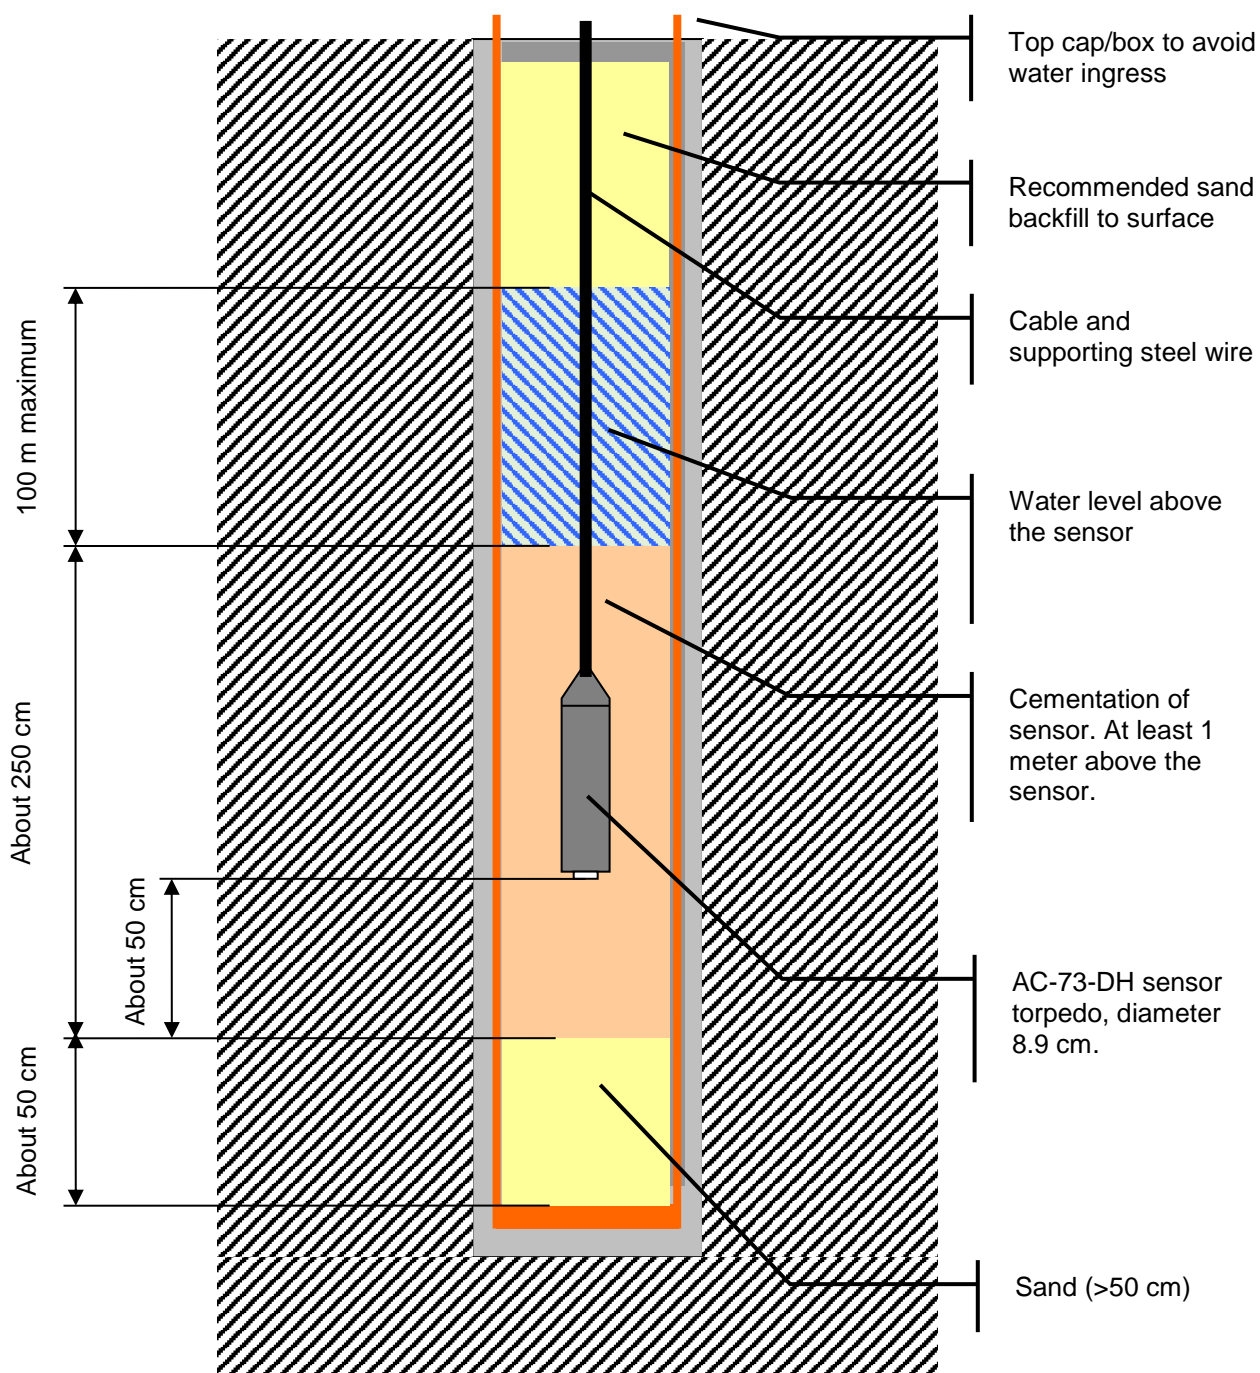

Figure 1. Typical Installation Layout (not to scale)
- f. Lift the sensor up by 50 cm so it is suspended by the wire (to ensure it is in a *vertical* orientation). See Figure 1.